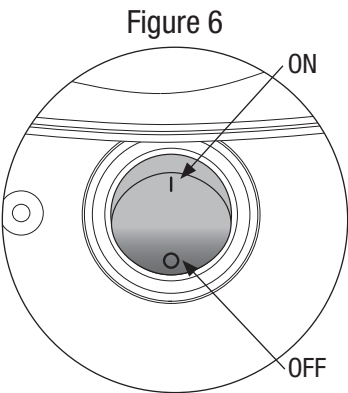

Figure 6
4. Make sure power button is in the  (OFF) position (Figure 6).
1. Turn the power button on the insect trap to  (OFF) (Figure 6).
1. Push the power button to  (OFF) (Figure 6).